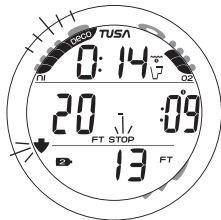

Fig. 84 - DV1 MAIN
**DV1 Main**, information includes (Fig. 84) -